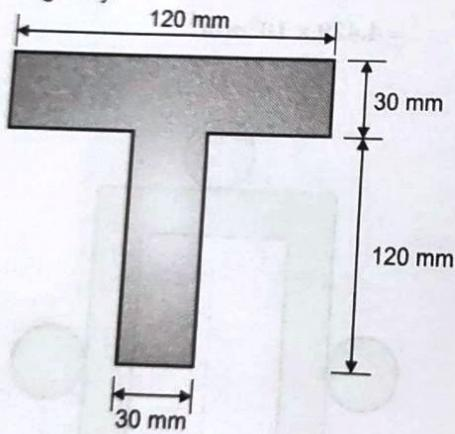

Fig. Q. 3
- Q. 3** Find the moment of inertia for the section shown in Fig. Q. 3 about an x-axis passing through its centre of gravity.